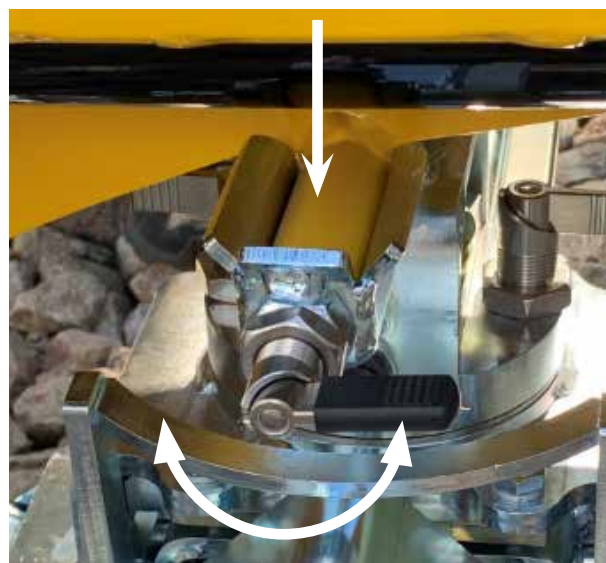

Fig 44.
7. Lower the power pack. Ensure that both sides of the power pack shaft rests in position. The Power pack is well balanced and easily placed in position. Lock the handles to secure the power pack, Fig 44. Make sure that the locking pin is in its inner position.